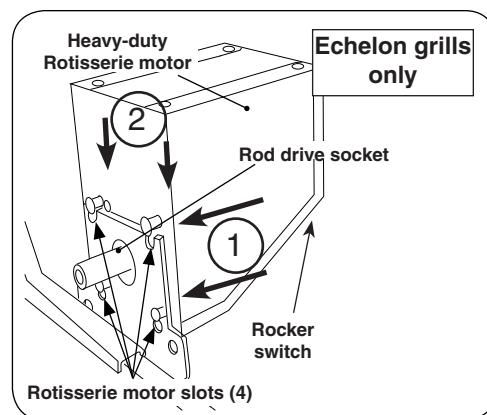

Fig. 4-2 Install motor (3607G)
1. Slide the rotisserie motor fully onto the existing motor bracket on the grill (right side, Fig. 4-2).